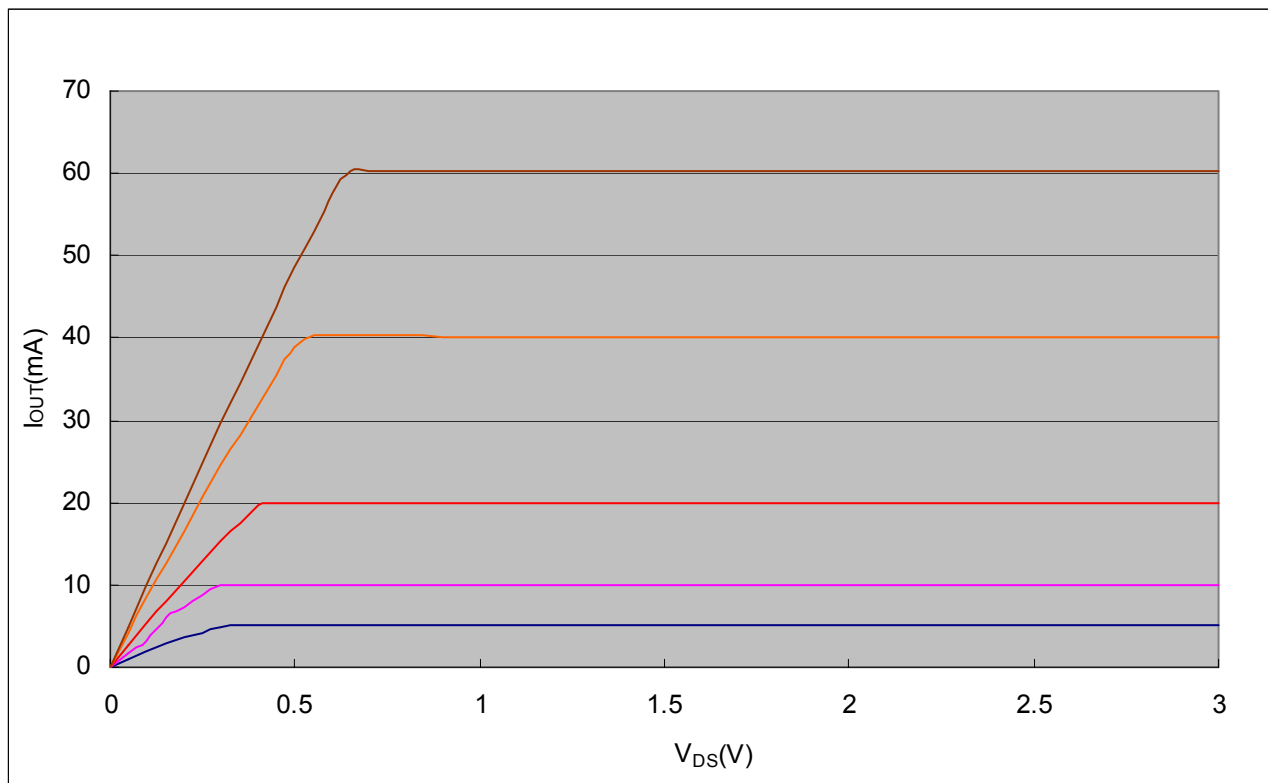

Figure 5
- 2) In addition, the current characteristic of output stage is flat and users can refer to Figure 5. The output current can be kept constant regardless of the variations of LED forward voltages (V_F). This guarantees LED to be performed on the same brightness as user's specification.